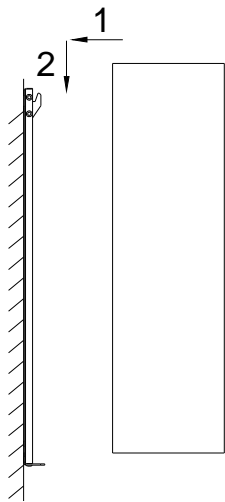

Fig. 5
- Hang the fireplace on the hooks at top and push the fireplace into the bracket and then fix it by 2pcs  $M5 \times 10$  screws. (Fig. 5)